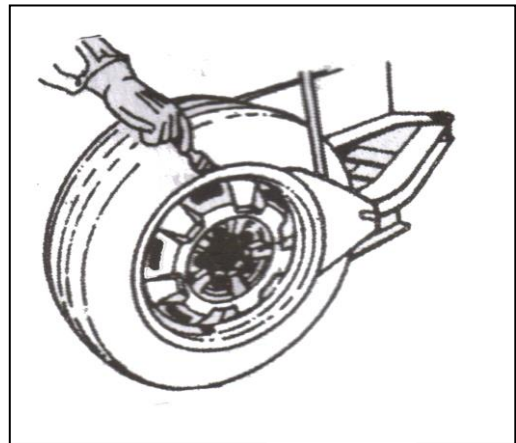

FIG 18
4.1.2 Place the tire between the bead breaking blade and tire pressing runner clog. (fig18) Then step down the tire press pedal to detach the rim from the tire (fig2-10 or 3-10). Repeat the same operation on the other parts of the tire to make the tire completely detached from the rim. Place the wheel with the tire detached from the rim on the turntable and step the clamp pedal (fig2-9; 3-9) to clamp the rim. You can select the outer clamp and inner clamp to clamp the wheel according to the different rim.